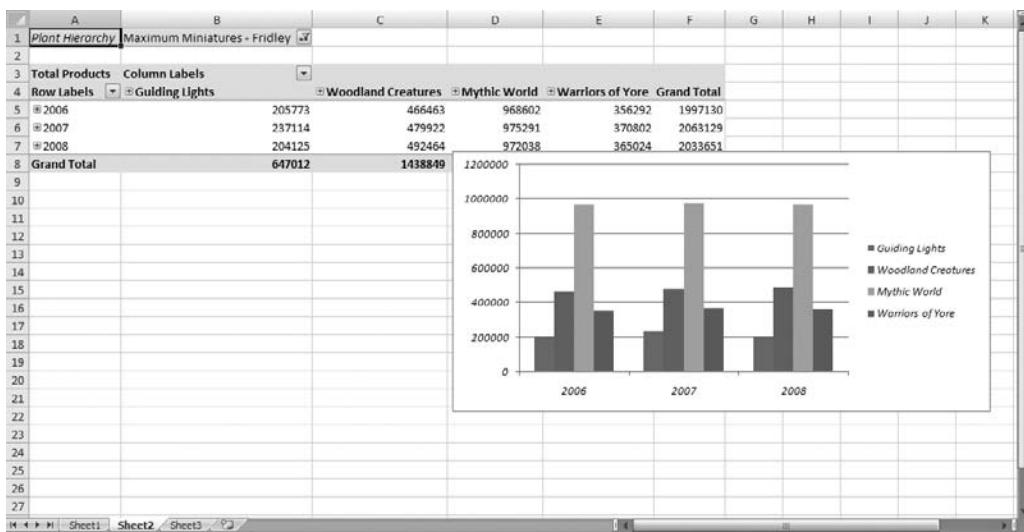

Figure 19-19 A pivot chart
15. In the PivotTable Field List, locate the Total Products measure. Drag the Total Products measure and drop it on the Values area. The chart appears as shown in Figure 19-19.